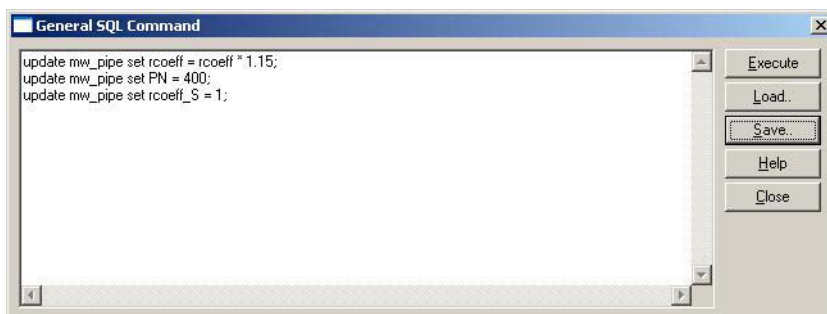

Figure 2.24 Example of SQL commands
General SQL commands can work on any MIKE URBAN geodatabase table such as "mw\_\*", "msm\_\*", "mss\_\*" and you can use standard SQL commands including UPDATE (to update table field values) (1). Please note the previous sections on the differences between the commands that can be used on mdb and gbd files. Multiple SQL statements need to be separated by ";" (see Figure 2.24).